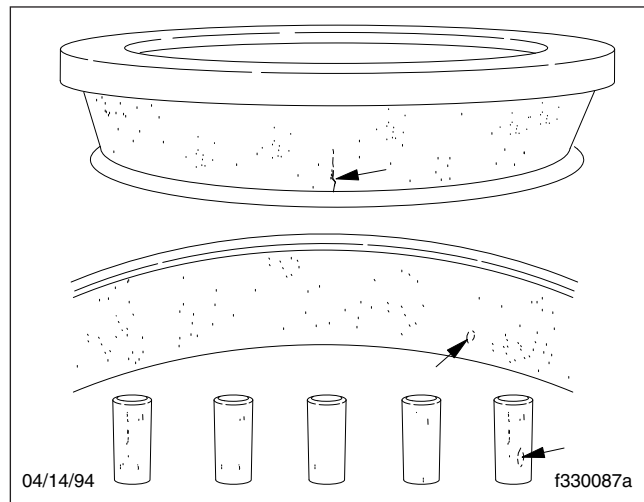

Fig. 5, Indentations, Cracks, or Breaks in Bearing Surfaces
- Visible step wear, particularly at the small end of the roller track. Deep indentations, cracks, or breaks in the cone surfaces. See Fig. 5.